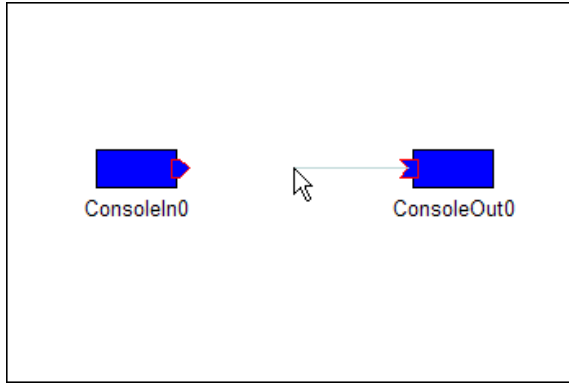
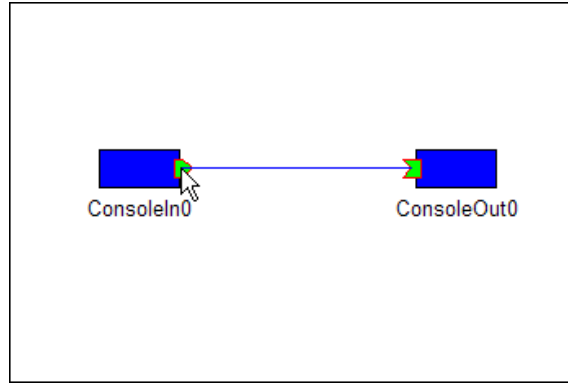

Fig. 4.15: Connecting components 2(a)
Fig. 4.16: Connecting components 2(b)
**Connecting an InPort/OutPort with a drag and drop** Another way to connect an InPort to an OutPort is to drag the origin InPort and drop it onto the target OutPort (Figure 4.15). A line will be drawn between the 2 newly connected InPort and OutPort and their color will change (Figure 4.16).